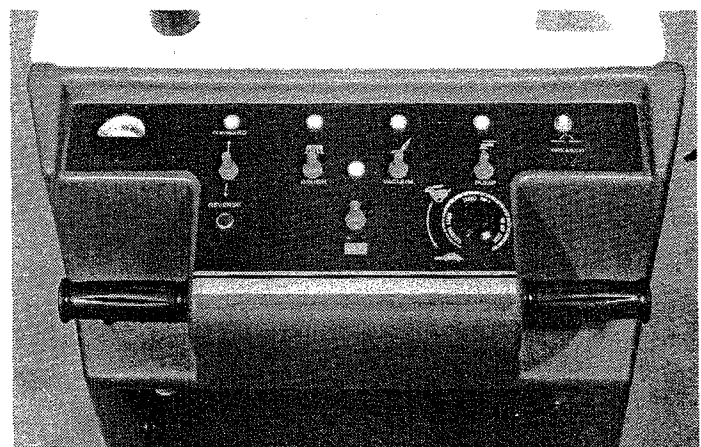

FIG. 4e
5. Move pump switch to the "ON" position. (See Figure 4e.)